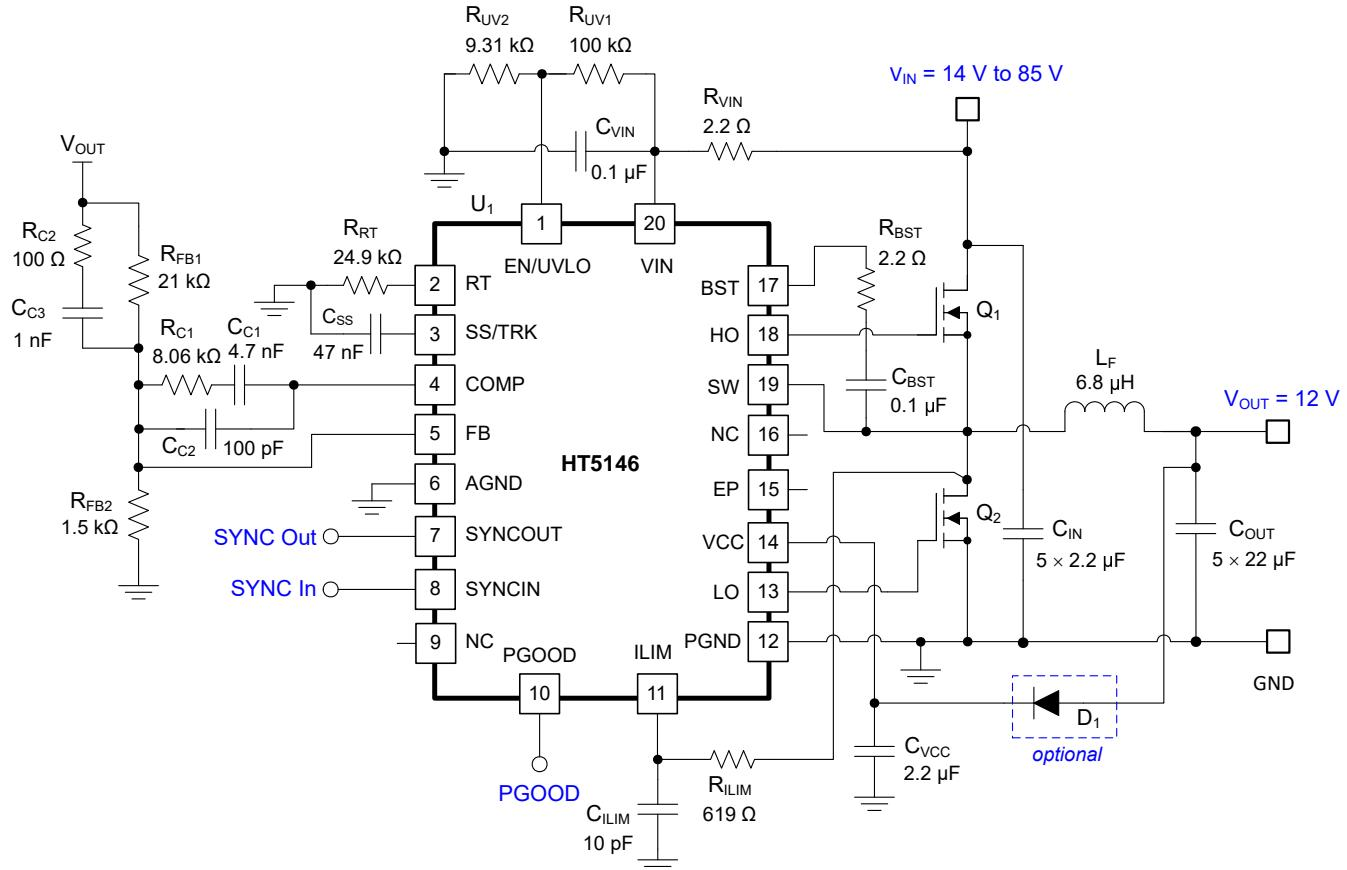

图 9-16. Application Circuit 2 With HT5146 48-V to 12-A Synchronous Buck Regulator at 400 kHz
图 9-16 shows the schematic diagram of a 400-kHz, 12-V output, 8-A synchronous buck regulator intended for 48-V telecom applications.
As shown in 图 9-16, a 2.2- Ω resistor in series with C_{BST} is used to slow the turn-on transition of the high-side MOSFET, reducing the spike amplitude and ringing of the SW node voltage and minimizing the possibility of Cdv/dt -induced shoot-through of the low-side MOSFET. If needed, place an RC snubber (for example, 2.2 Ω and 100 pF) close to the drain (SW node) and source (PGND) terminals of the low-side MOSFET to further attenuate any SW node voltage overshoot and/or ringing. Please refer to the application note Reduce Buck Converter EMI and Voltage Stress by Minimizing Inductive Parasitics for more detail.
3. Placing a 2- Ω to 10- Ω resistor in series with the boot capacitor, as shown in 图 9-16, slows down the high-side MOSFET turn-on transition, serving to reduce the voltage ringing and peak amplitude at the SW node at the expense of increased MOSFET turnon power loss.